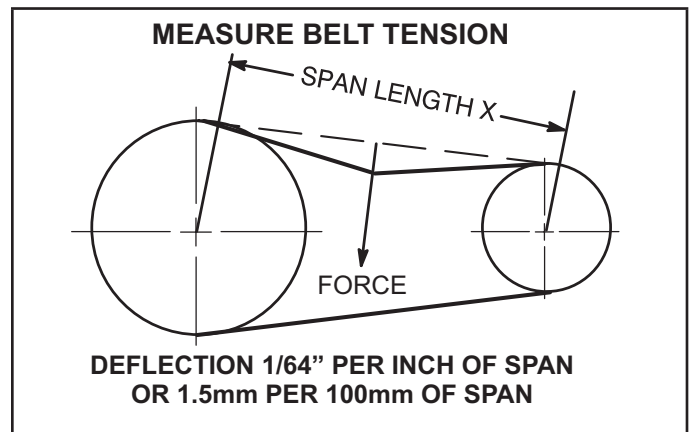

FIGURE 16
- 1 - Measure span length X. See FIGURE 16.
- 2 - Apply perpendicular force to center of span (X) with enough pressure to deflect belt 1/64" for every inch of span length or 1.5mm per 100mm of span length.